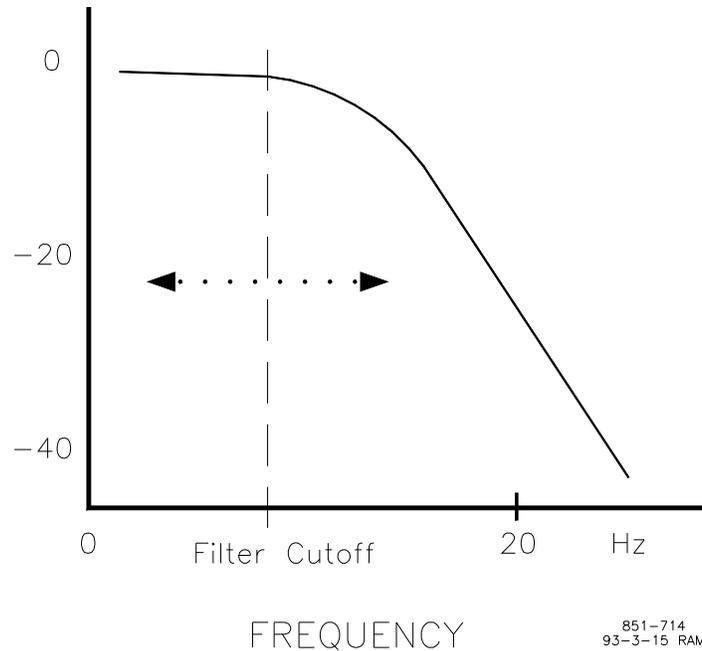

Figure 3-5. Speed Filter
8. **SPEED FILTER FREQ (HZ)** adjusts the cutoff frequency of a low pass filter used on the engine speed sensing input (see Figure 3-5). To use this feature set the cutoff frequency below 15.9 Hz. The filter is used to attenuate engine firing frequencies. To calculate the desired filter cutoff point, use the following formulas:
15. **SPEED FILTER FREQ (HZ)** is the cutoff frequency of a low pass filter used on the speed sensing input (see Figure 3-5). To use this feature set the cutoff frequency below 15.9 Hz. The filter is used to attenuate engine firing frequencies. To calculate the desired filter cutoff point, use the following formulas: